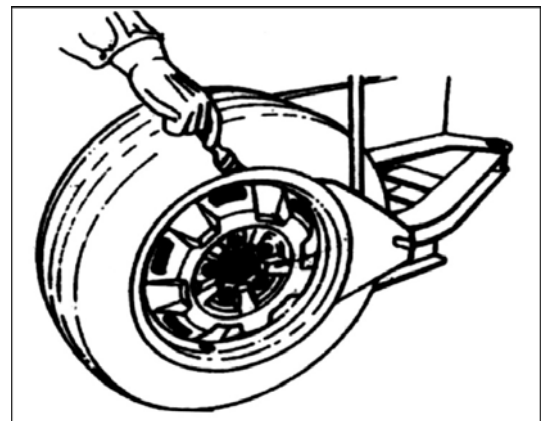

Fig 17
4.1.2 Place the tire between then bead breaking blade and tire pressing runner clog. Position the bead breaking blade beside the lateral side of the tire (FIG17).Then step down the pedal to detach the rim from the tire(fig2-12). Repeat the same operation on the other parts of the tire to make the tire completely detached from the rim. To detach the lip smoothly, you can use the brush to spread the lubricant or thick soap liquid between the lip and rim.